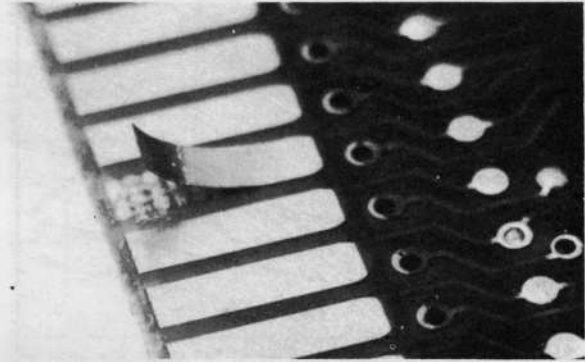

FIGURE 20. DAMAGED EDGE CONNECTOR
STEP 17. Remove the damaged Edge Connector from board, making certain that you do not damage any other areas of board (see Figure 20).